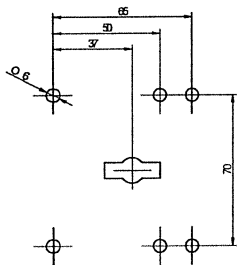

Fig. 4: Fastening hole pattern
- For installation and adjustment of the lock on the door, make sure that the key can be inserted into the lock without having to apply force and without jamming. This can be achieved by mounting the lock according to the following pattern of mounting holes (Fig. 4). For further lock dimensions please refer to the Kaba Mauer Catalogue Sheet. Mounting plate (Option Code MPL) may be used as an alternative.